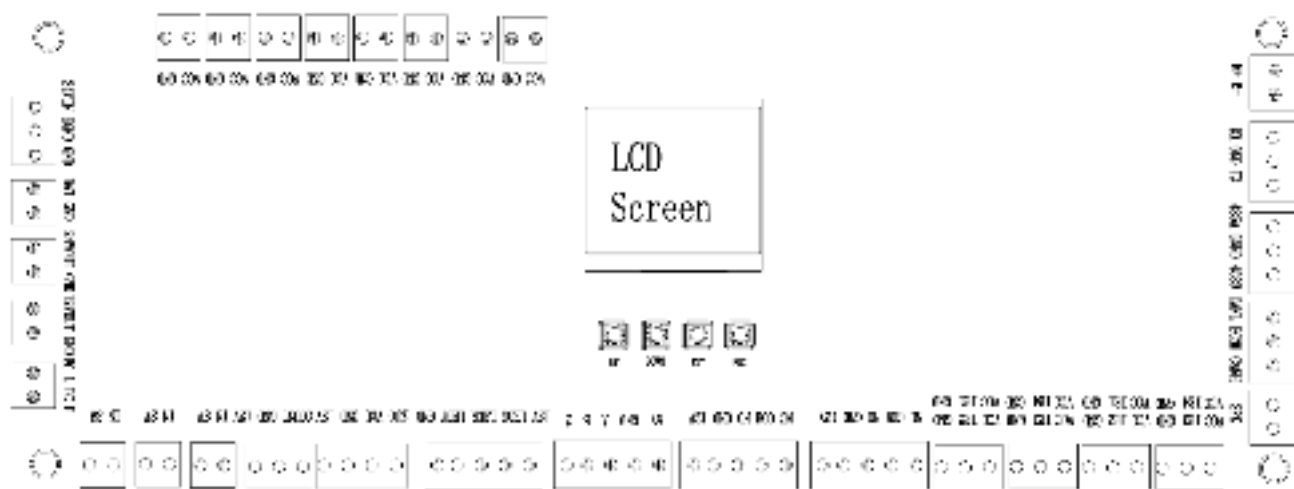

Figure 3-1
- 2) There are 4 buttons on the control board: **UP**, **DOWN**, **ENT**, and **ESC**, as shown in Figure 3-1.